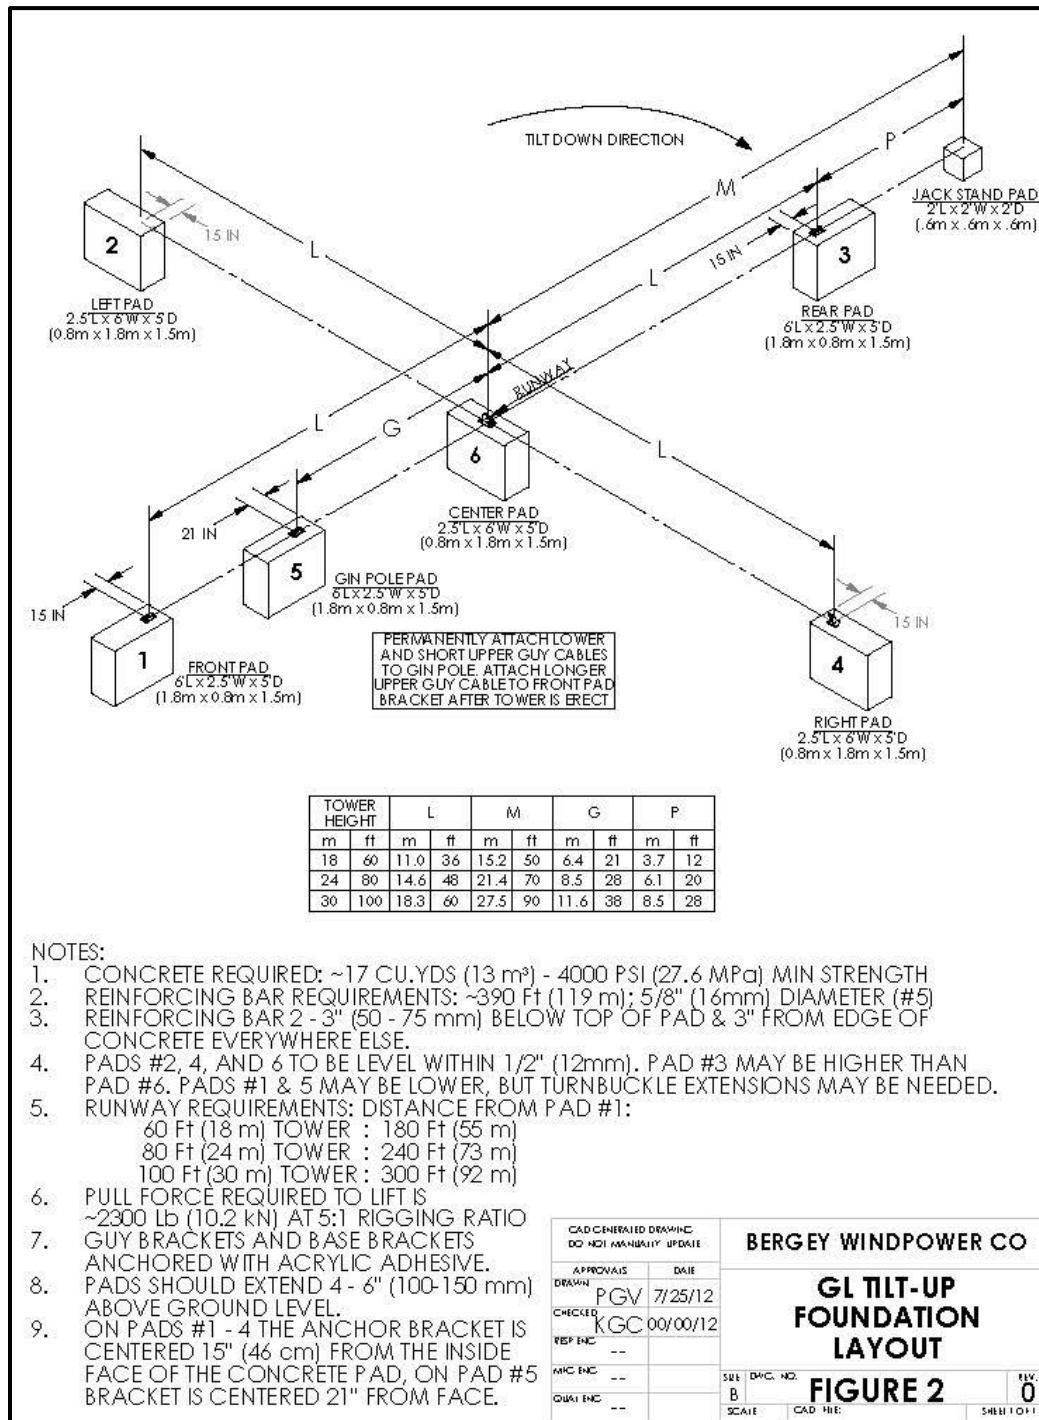
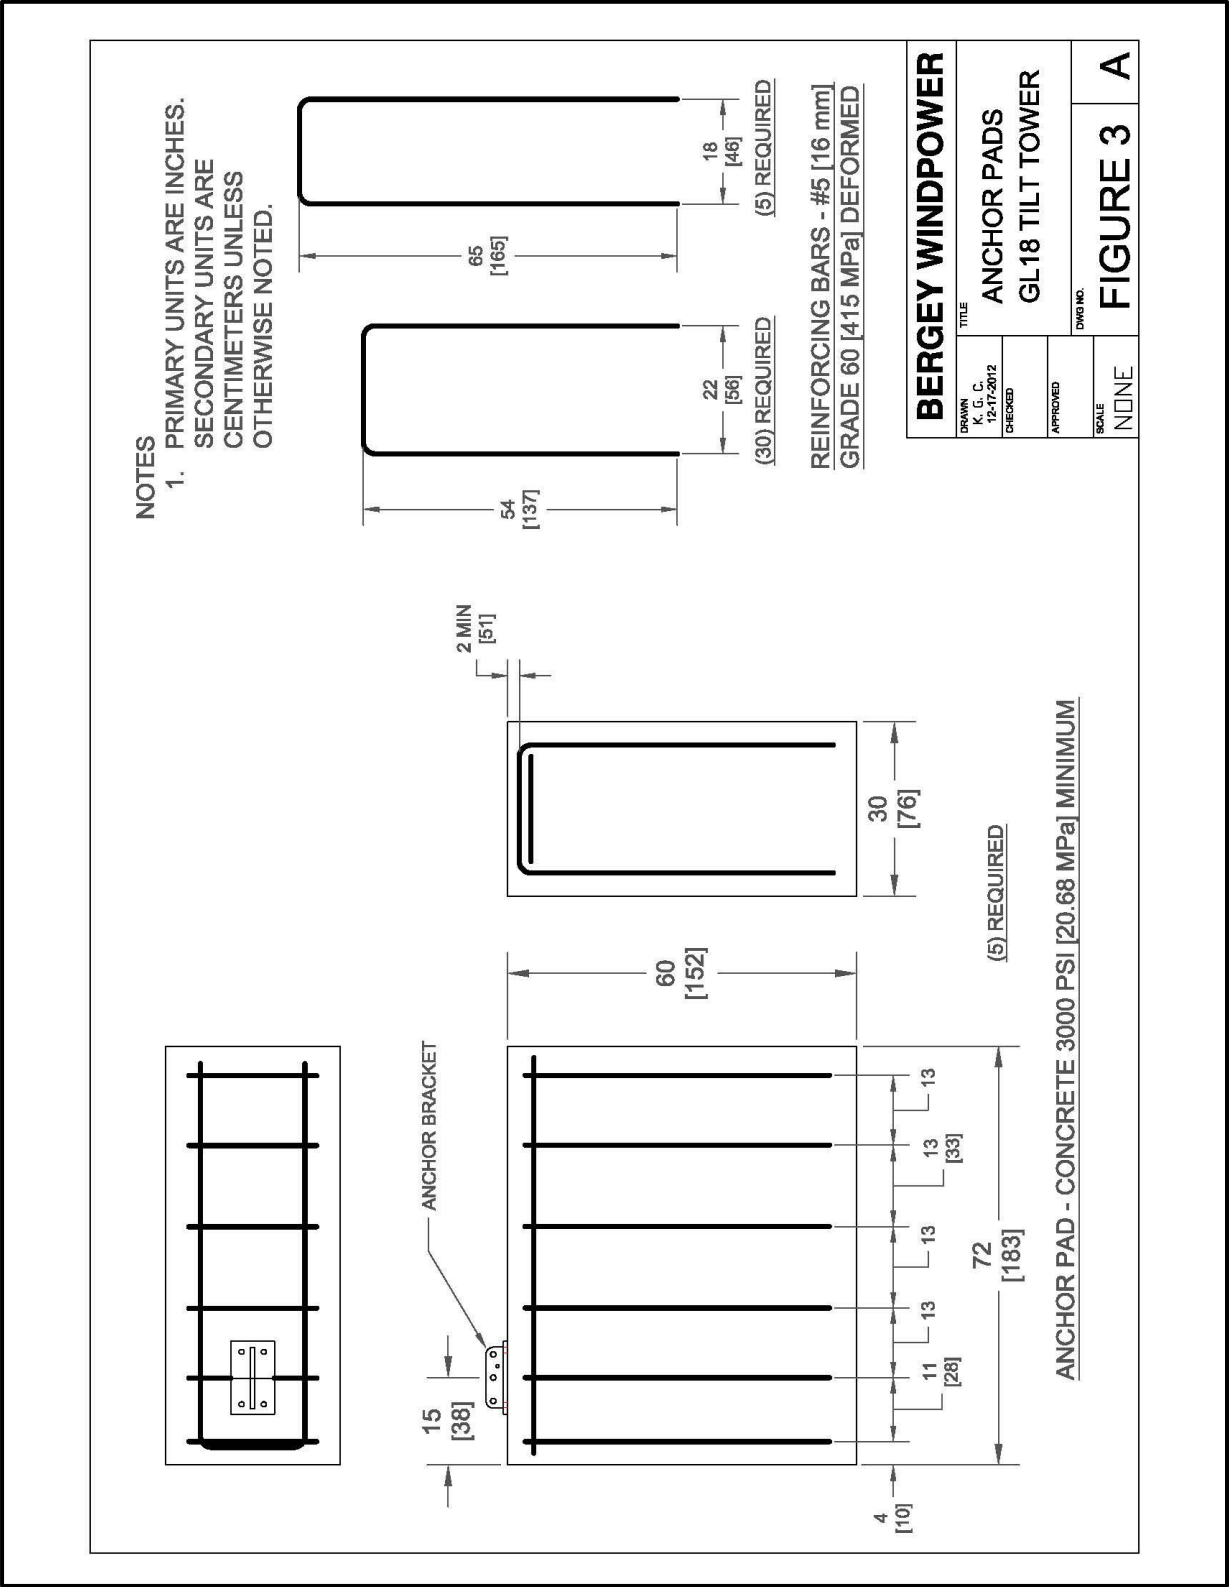

Figure 2. Tilt Tower Foundations Layout
Figure 3. Anchor Pad Reinforcing Bar
1. Pads shown in Figure 2 are 5 ft (152 cm) thick. If the pads project 6 in (15 cm) above ground level they will extend 54 in (140 cm) below grade. These pads are acceptable for frost depth up to 50 in (127 cm), but in areas with deeper frost the anchor and base pad thickness must be increased to extend the pads below maximum frost depth.
2. Pads shown in Figure 2 are suitable for a broad range of soil type and strength, but non-cohesive soils such as sand will require larger pads to resist vertical loads exerted by guy cables and raising cables. Consult BWC in such cases.
1. Footings are located as shown in **Figure 2**. The "L" spacing locates four guy anchor pads (1-4) which are equally spaced from the center point of base pad 6. **Note that "L" refers to the distance to the nominal center of the guy anchor brackets, not to the "inner" edge of the pad.** The "inner" edge of these anchor pads is 15 in (38 cm) closer to the base pad 6. The "G" spacing locates the center of the gin pole anchor, and again the inner face of this pad is 21 in (53 cm) closer to the base pad. Finally, spacing "P" locates the jack stand pad, installed on the center line through pads 1, 5, 6 and 3. The construction details for all these pads are shown in Figures 3, 4 and 5.